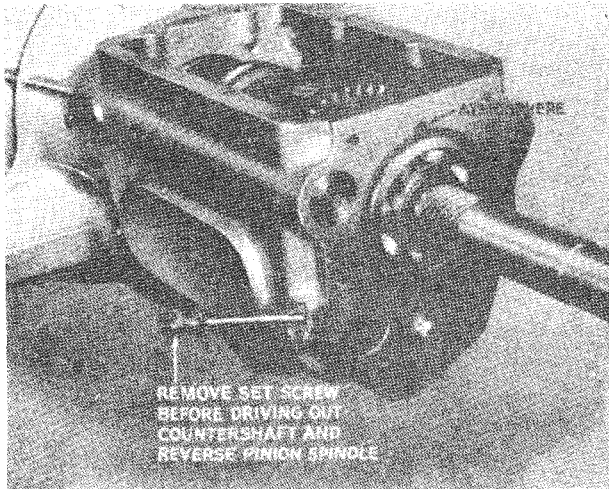

Fig. 7 Countershaft and Reverse Locating Set-screw partially withdrawn.
- (h) Withdraw the countershaft locating setscrew as shown in Fig. 7.
(vi) Third and top speed synchro unit with the short boss of the synchro hub towards the mainshaft circlip or rear of gearbox as shown in Fig. 3. The mainshaft and ball race can then be driven into the gearbox casing, positioning the gap of the circlip on the outer ring of the bearing in line with the atmosphere hole in the casing as shown in Fig. 7.